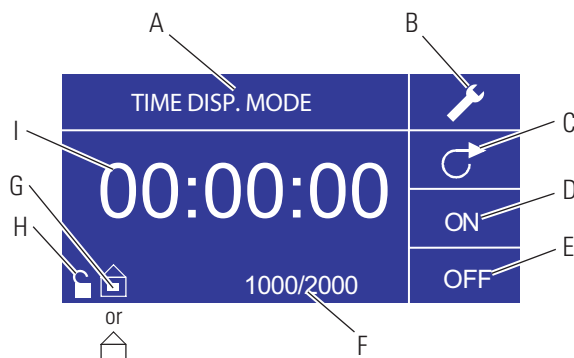

Figure 3-4. Time Dispense Mode Screen
- I. **Time Display:** The center digits show the remaining time of the drive in the ON or OFF Time highlighted on the right of the display (position D or E, Figure 3-4).
6. **Setting ON Time:** To set the ON Time, use the directional pad and ENTER key to select the ON field (see position D, Figure 3-4). Doing so will highlight the timer in the center of the screen (see position I, Figure 3-4). Pressing ENTER again, allows the timer to be set using the UP/DOWN arrows. Switch between digits using the LEFT/RIGHT arrows. Having selected an optimal ON Time, press ENTER again to validate. The drive will now run for the time appearing in the center of the screen.
7. **Setting OFF Time:** To set the OFF Time, use the directional pad and ENTER key to select the OFF field (see position E, Figure 3-4). Doing so will highlight the timer in the center of the screen (see position I, Figure 3-4). Pressing ENTER again, allows the timer to be set using the UP/DOWN arrows. Switch between digits using the LEFT/RIGHT arrows. Having selected an optimal OFF Time, press ENTER again to validate. The drive will stop running for the time appearing in the center of the screen. **NOTE:** If the OFF Time is set to 00:00:00, the drive requires a START/STOP Input from the keypad or the remote IO Connector to start the next dispense.
8. **Selecting Batch Size:** Before running the drive at the selected ON/OFF Times, select a batch size for the operation. To do so, use the directional pad and the ENTER key to select the BATCH icon (see position F, Figure 3-4). In the Batch Count screen, press the ENTER key and then use the UP/DOWN arrows on the directional pad to select a batch size. Switch between digits using the LEFT/RIGHT arrows. Press ENTER one more time to validate the selected batch size. When set to zero (0) the drive will run for an infinite number of cycles and the ∞ symbol is displayed. Use the directional pad to select EXIT to return to the Time Dispense Operation Screen.
10. **Resetting Batch:** To reset a batch, use the directional pad and the ENTER key to select the BATCH icon (see position F, Figure 3-4). In the Batch Count screen, use directional pad to select RESET and press the ENTER key to reset the batch count, select EXIT to return to the main Time Dispense Mode operation screen.